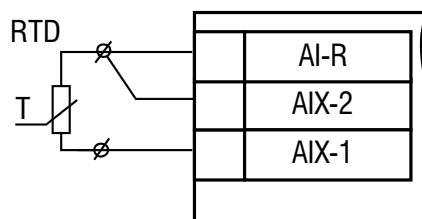

Fig. 4.2 RTD wiring
- The inputs should be wired in accordance with Fig. 4.2 – 4.7.